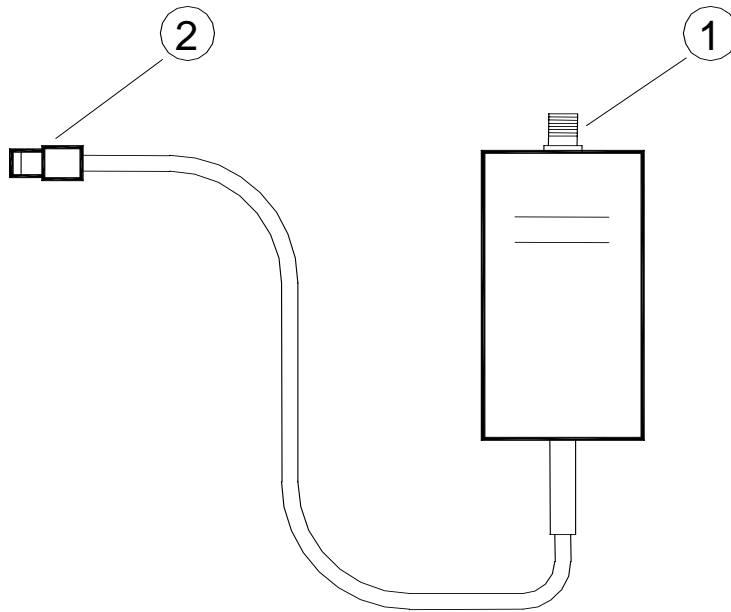

Fig. 4
- connect the Nucletron connector (see Fig. 4 N° 2) to the corresponding connector on the chronometer
- screw in the antenna (see Fig. 4 N° 1)